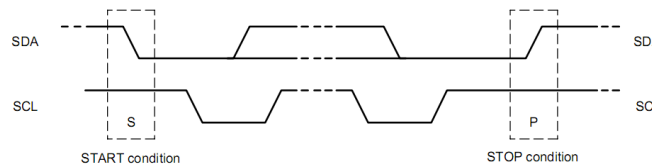

Figure 6: Schematic diagram of the start and stop conditions
**Stop condition:** During the time when SCL is high, SDA from low to high transition when a Stop condition. Generate a stop condition after the bus is idle. Stop condition denoted by P. Start and stop conditions diagram shown in Figure 6.